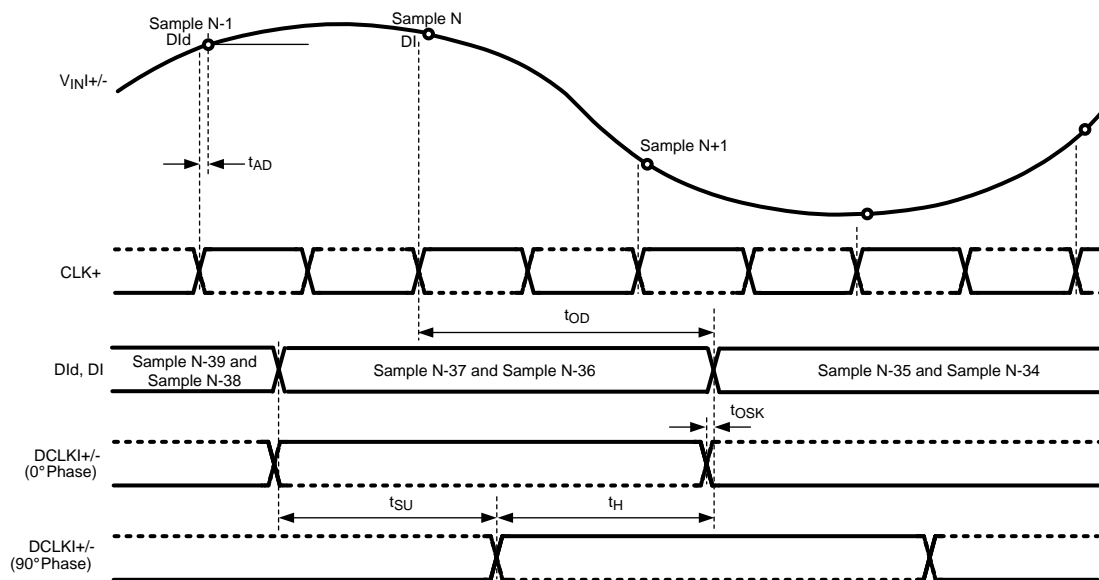
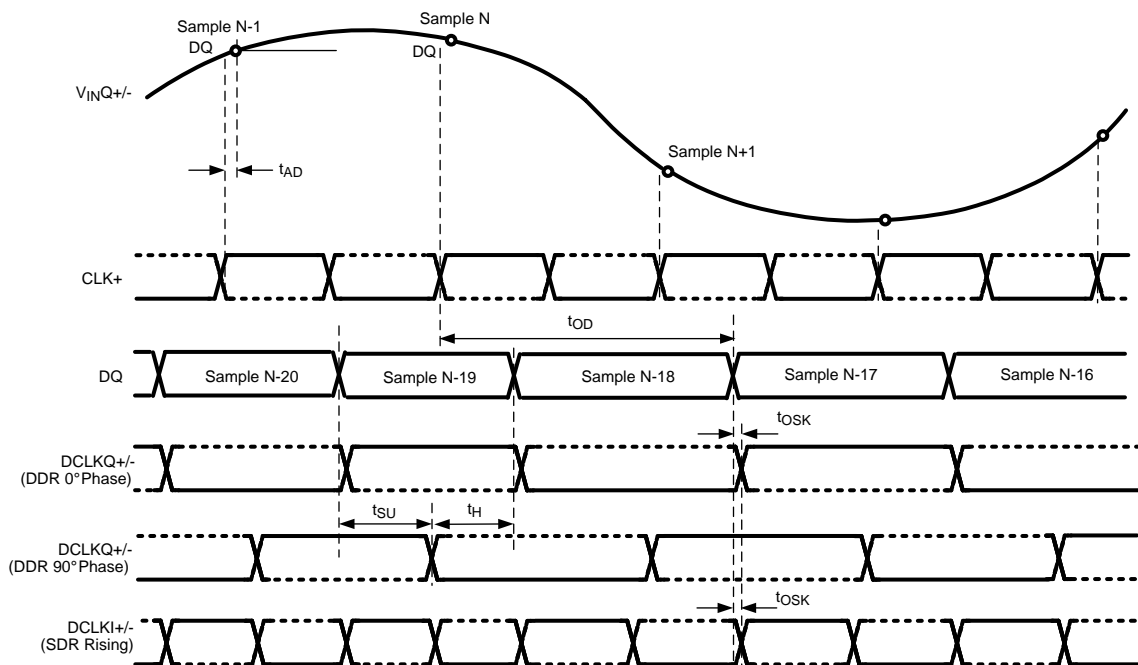

Figure 4. Clocking in Non-LSPSM, 1:2 Demux, Non-DES Mode*
Figure 9. Clocking in LSPSM, Non-Demux Mode, Non-DES Mode*
* The timing for Figure 4 through Figure 9 is shown for the one input only (I or Q). However, both I- and Q-inputs may be used. For this case, the I-channel functions precisely the same as the Q-channel, with V_{inI} , $DCLKI$, DId and DI instead of V_{inQ} , $DCLKQ$, DQd and DQ . Both I- and Q-channel use the same CLK.